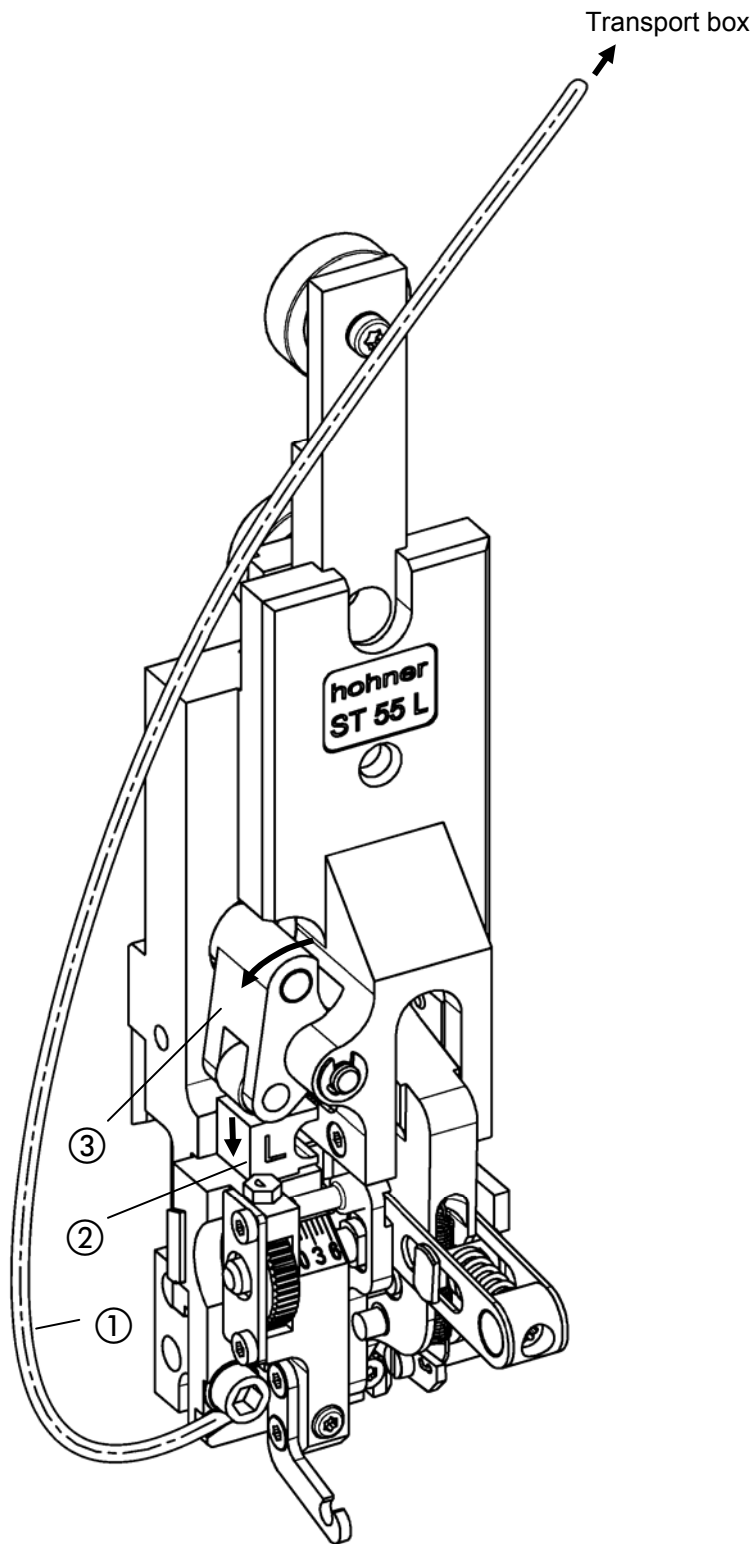

Fig. 10
- Fig. 10 -
- Operate the transport box in jog mode so that the stitching wire ① is fed in the stitching head.
- Cut off exceptionally long wire pieces by pressing down the knife slider ② (can be simplified by levering the cutting rocker ③).